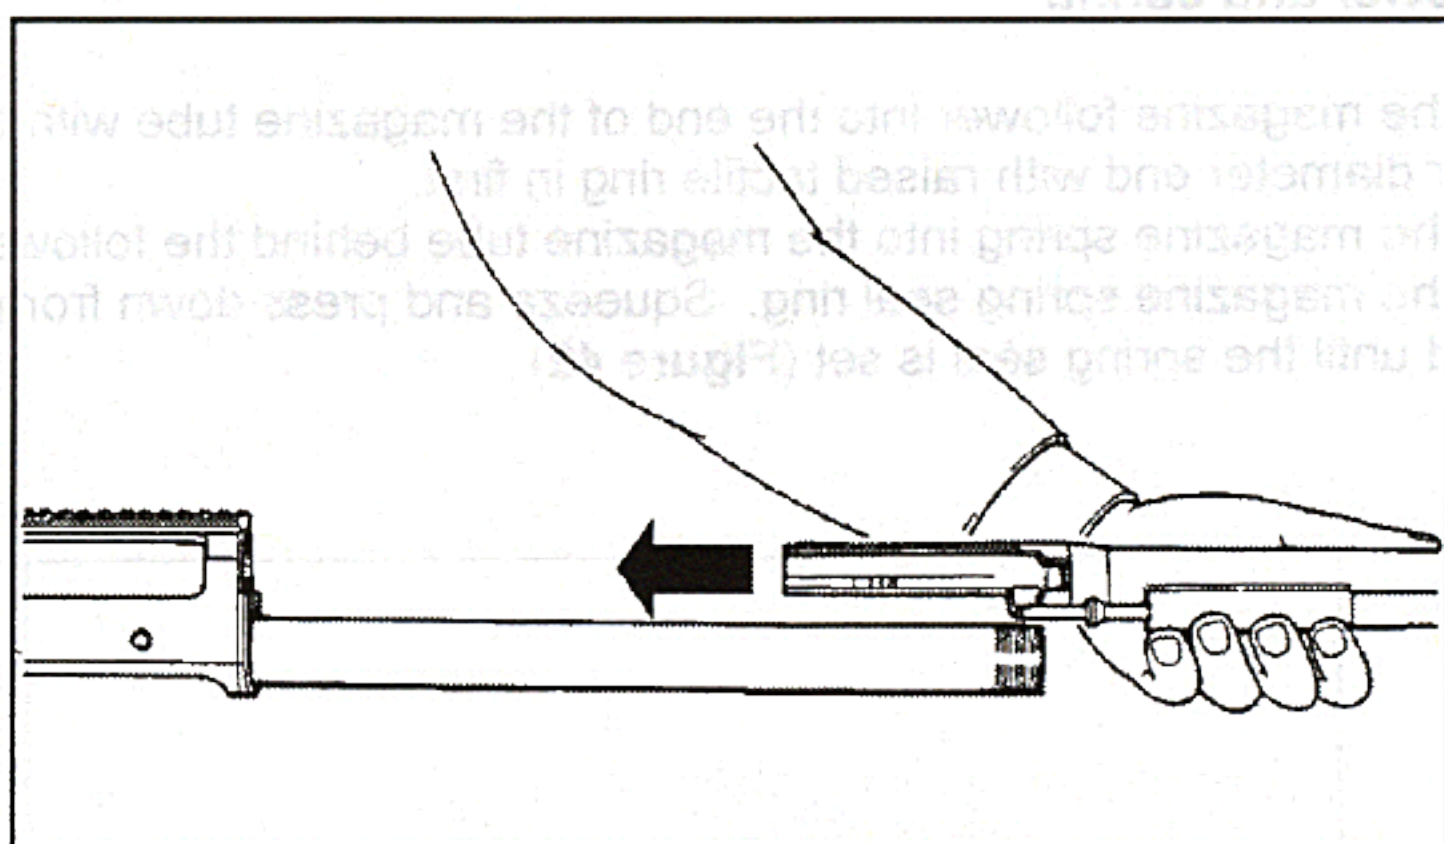

Figure 43a. Installing barrel
8. **Install barrel and forearm (Figures 43a, 43b, 43c, 43d)**
- A. Holding the bolt group slightly rearward at least 1/4 inch using the bolt handle (**Figure 43a**).